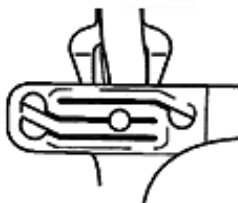

Fig. 6
4. To ensure that headbands are compatible with all head height, the helmet also has the facility to adjust the wearing height by way of repositioning of the headband clips within the suspensions as shown in Fig. 2 and Fig. 6.